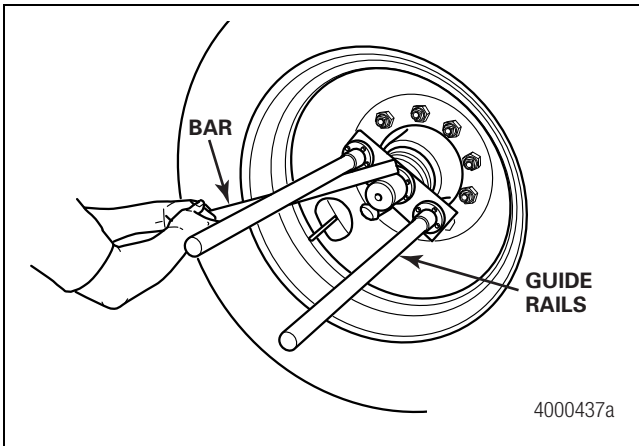

Figure 2.30
6. Thread the guide rails onto the axle spindle. Use a bar to tighten the rails. Figure 2.30.